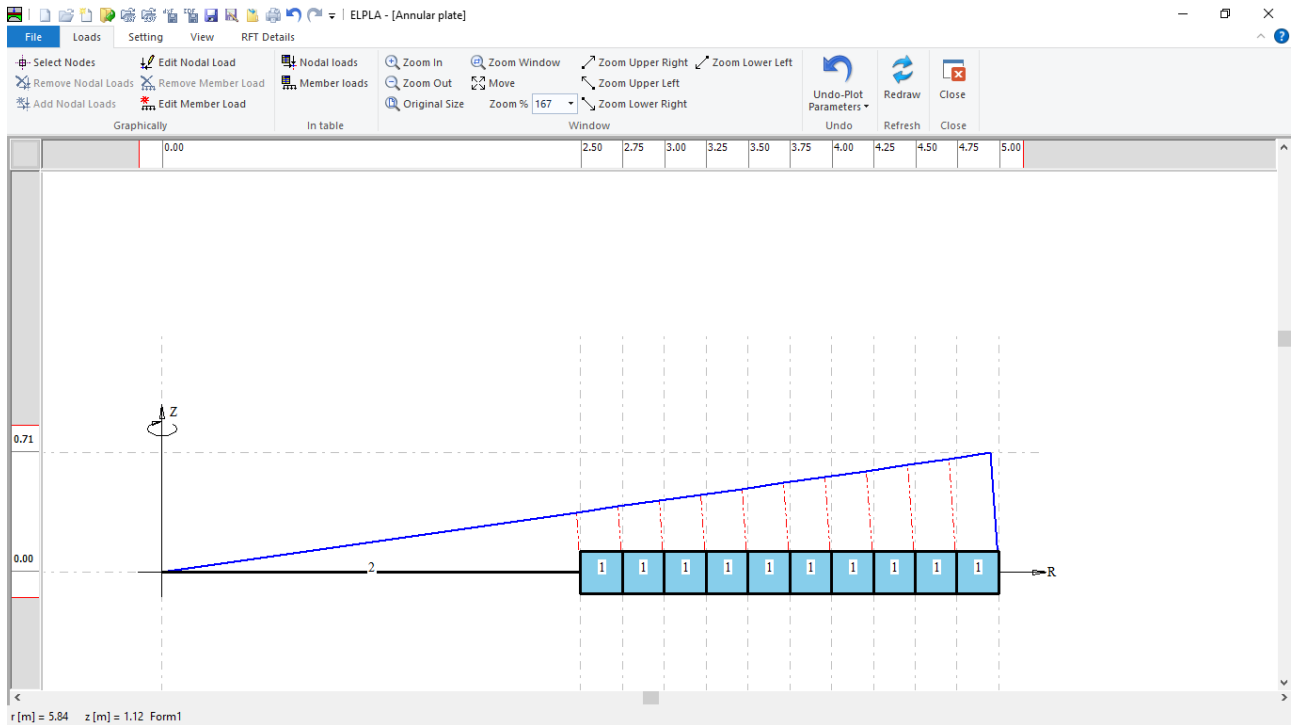

Figure 2.22 "Loads" Window
To define the loads, choose "Loads" command from "Data" Tab. The following Window in Figure 2.22 appears. In *ELPLA*, entering loads may be carried out either numerically (in a table) or graphically using the commands of "Loads" Tab in Figure 2.22. For this example, there is not applied load, as the load has been already defined by the unit weight of the plate.
- Choose "Save" command from "File" menu in Figure 2.22 to save the load data
- Choose "Close" command from "File" menu in Figure 2.22 to close the "Loads" window and return to *ELPLA* main window